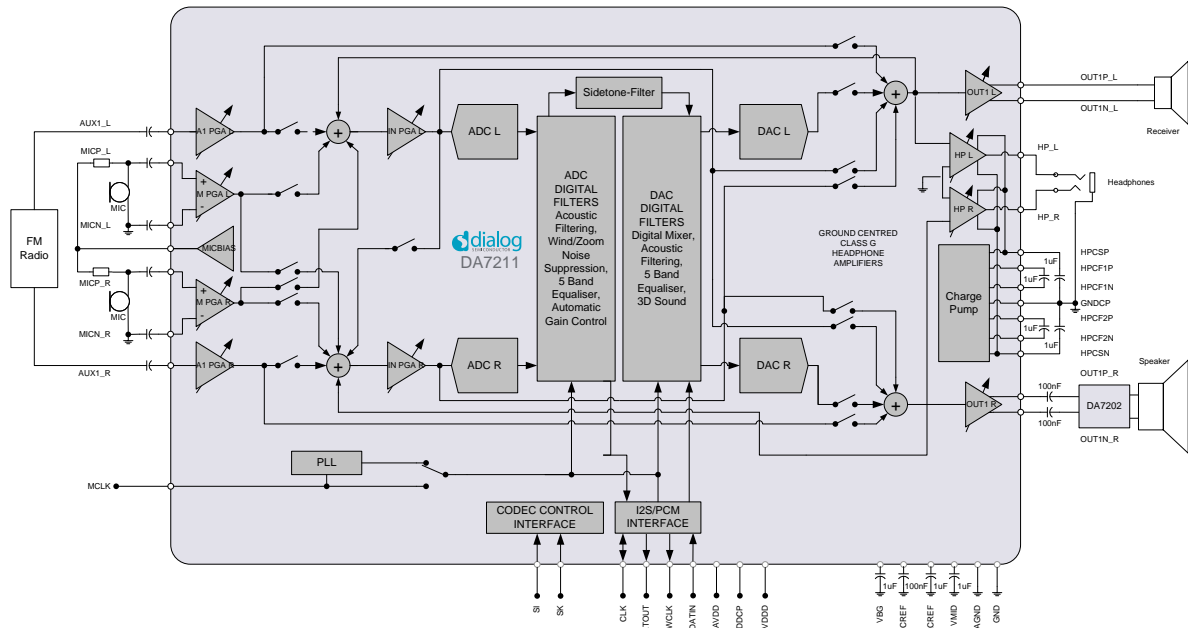

Figure 1: DA7211 block diagram
**Table 5: Power consumption figures 1:**